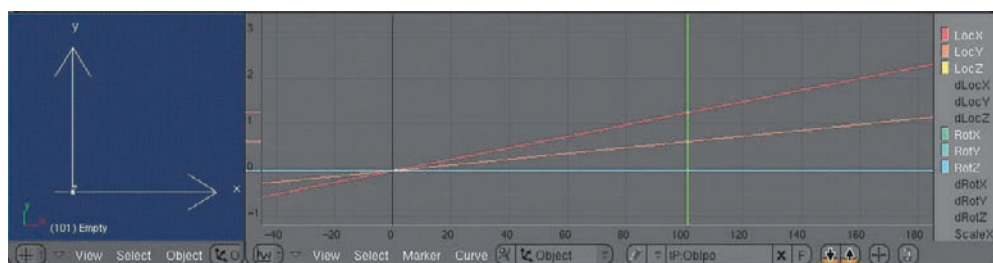

Figure 1.37 Ipos for animating the empty's movement
5. These texture-based waves will be animated by keying the movement of the empty. Key two points for the empty and set the empty's Ipos as shown in Figure 1.37. Select the curves, and choose Curve > Extend Mode > Extrapolation in the header menu to make steady slopes. The empty should move along X and Y axes only, and be sure to keep the slopes gradual so that the empty doesn't move too fast.